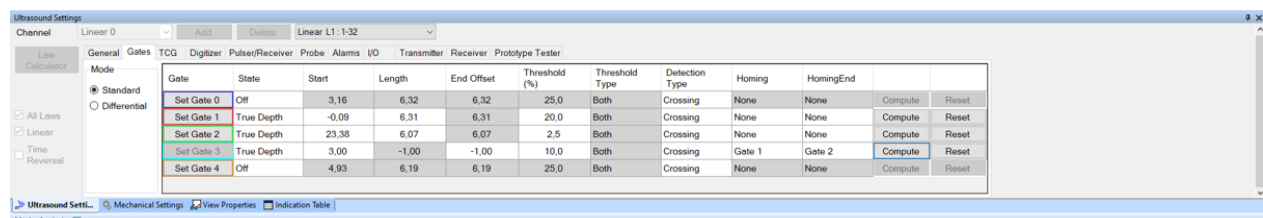

Figure 38: Overview of the Gates page including gates in Homing/Homing End mode
- In **Ultrasound Settings > Gates** page (see Figure 38):